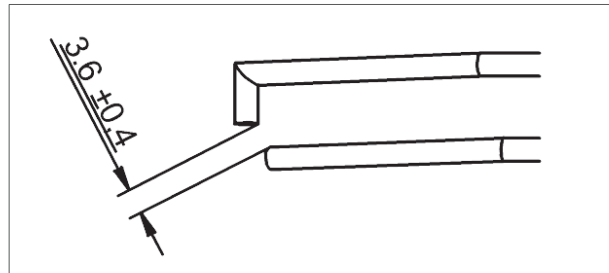

Figure 23 - Distance between the two electrodes
- b. The distance between the two electrodes should be $3.6 (\pm 0.4)$ mm (figure 23).